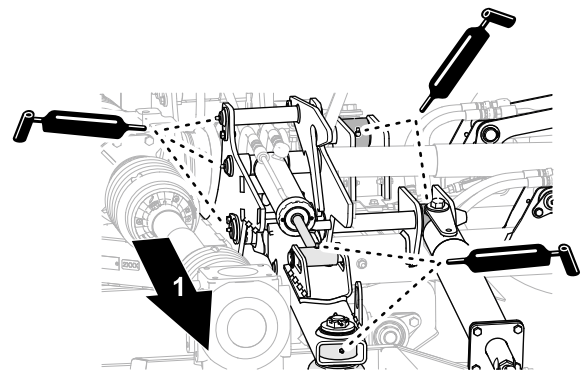

Figure 52
- Apply the specified grease to the lift arms, hydraulic cylinders, and impact struts of the left and right mower decks (Figure 52).